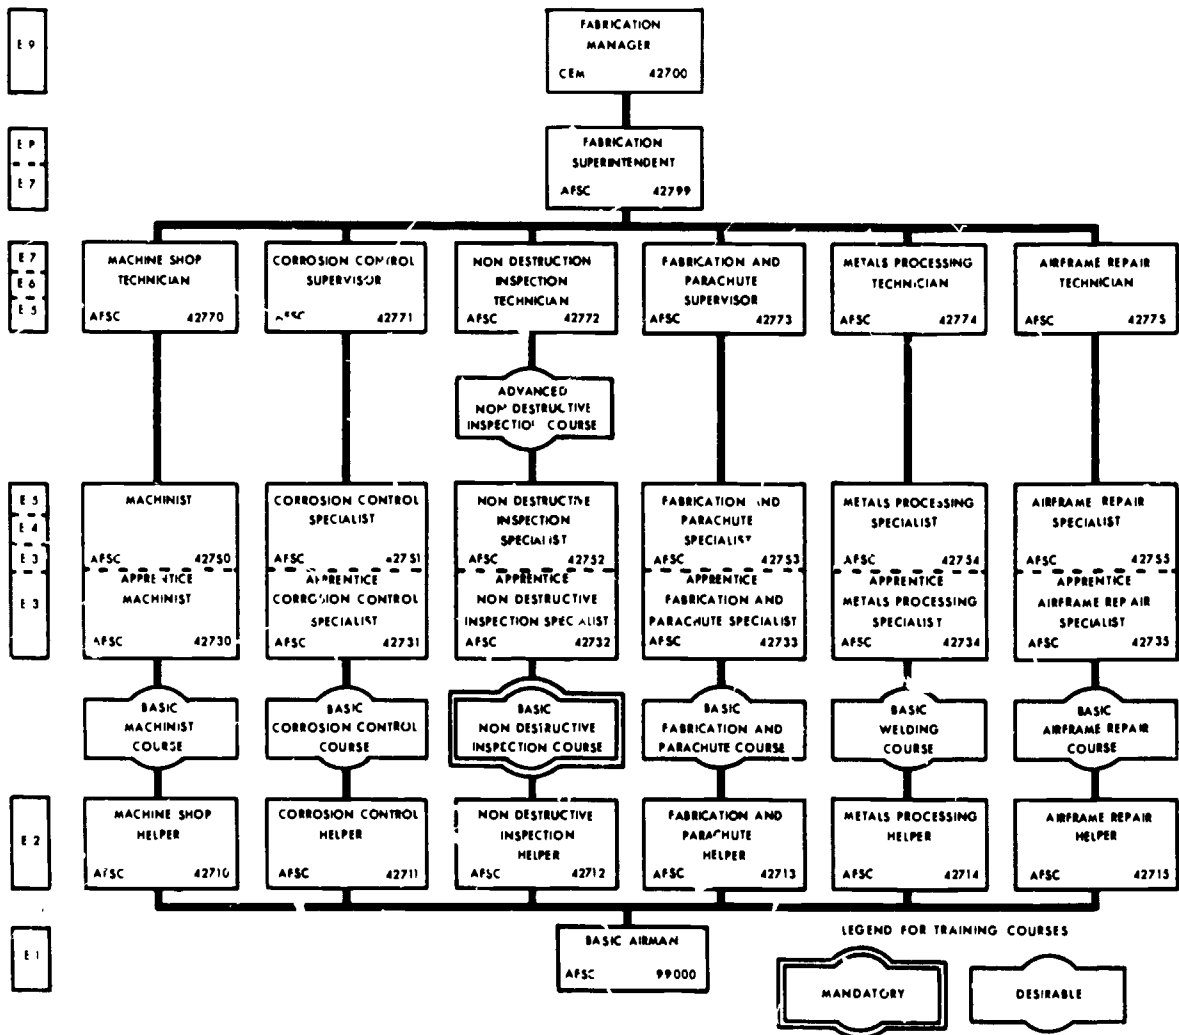

Figure 1-1 Fabrication career field subdivision.
The "0," in conjunction with the other digits in AFSC 42730, identifies the machinist career ladder (specific specialty) within the fabrication subdivision. There are five other specialties within the subdivision, as shown in figure 1-1. A graphic display of the AFSC that you are training for (42750) is as follows:
A fourth skill level (42799 at the 9 skill level) is attainable by the machinist, through it is not specifically a part of the specialty. This 9 skill level (fabrication superintendent) is the top rung of all the specialties within the fabrication career field subdivision, as shown in the Fabrication career field subdivision chart (fig. 1-1). Progressing to this 9-level position looks simple enough on paper, but let's examine what is really involved in the advancement process.
**Fabrication manager.** Another 9-level position called fabrication manager has been established above that of fabrication superintendent. Figure 1-1 shows the fabrication manager's position and the grade spread applicable to it. Note that only those NCOs in the highest rank (chief master sergeant) will attain this position. The duties of the fabrication manager are basically the same as those for the fabrication superintendent, except that they are more general and are completely managerial. As shown in figure 1-1, this position is identified by a special AFSC (42700) called a *Chief Enlisted Manager (CEM)* code. The CEM position was added to the top of all major career field areas, and each is identified by its own special code. The purpose is to recognize the fact that an individual who proves himself by attaining the rank of chief master sergeant is capable of working in a variety of similar jobs and functional areas where his managerial abilities can be best utilized and challenged.